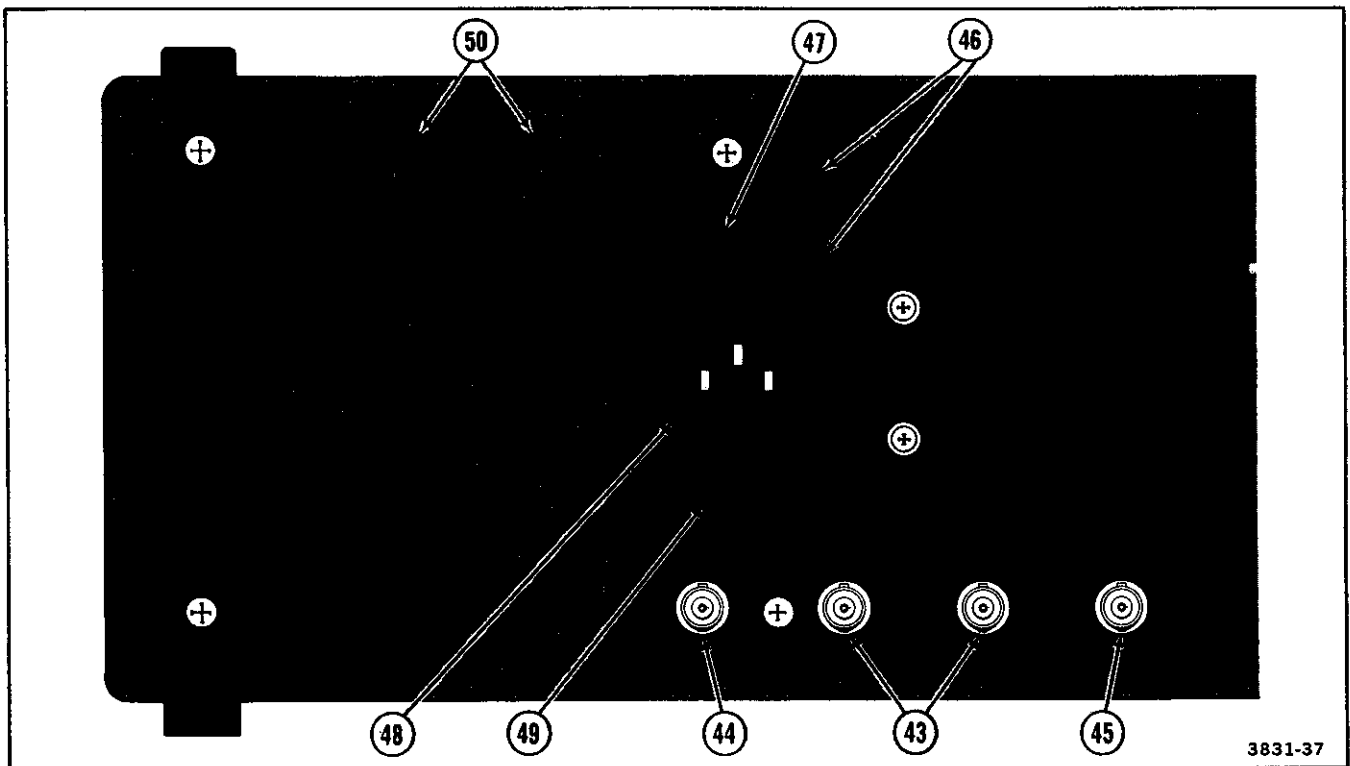

Figure 2-7. Rear-panel controls and connectors.
Refer to Figure 2-7 for location of items 43 through 50.
- ④④ **CH 2 SIGNAL OUT Connector**—Provides an output signal that is a normalized representation of the Channel 2 input signal. The output amplitude into a 1-M Ω load is approximately 20 mV per division of input signal. Into a 50- Ω load, the output amplitude is approximately 10 mV per division of input signal.
- ④⑤ **EXT Z-AXIS IN Connector**—Provides an input connection point to apply external Z-axis modulation signals to the Z-Axis Amplifier. Either the sweep or the X-Y display may be intensity modulated. Positive-going signals decrease the intensity. From dc to 2 MHz, an input-signal amplitude of +2 V will blank a maximum-intensity trace; from 2 MHz to 20 MHz, an input-signal amplitude of +2 V will produce noticeable modulation on a normal-intensity trace.